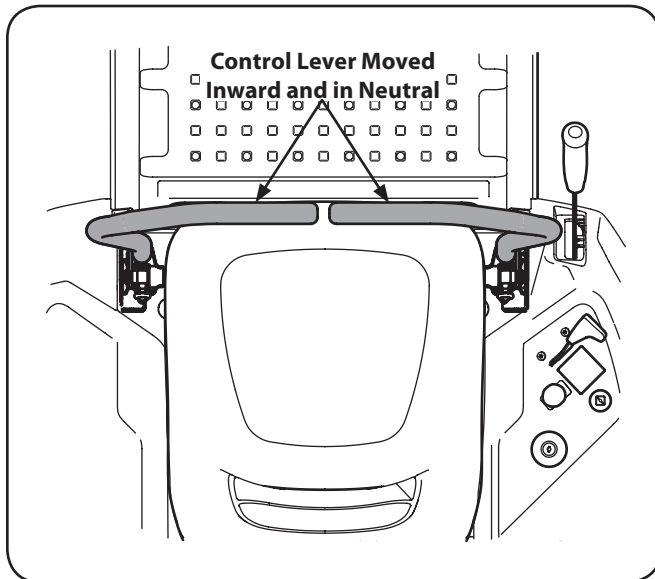

Figure 5-2
2. Move the RH and LH drive control levers inward in the neutral position which also disengages the parking brake. Refer to Figure 5-2.